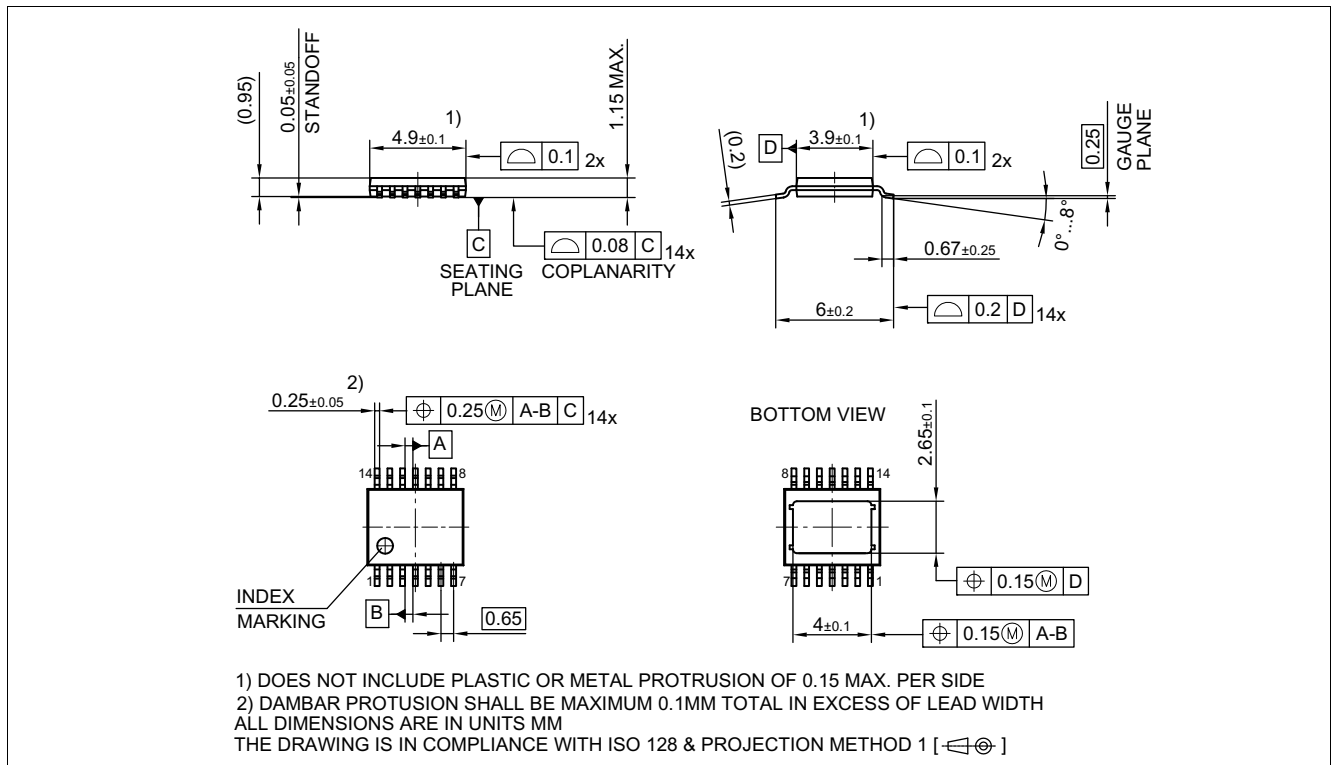
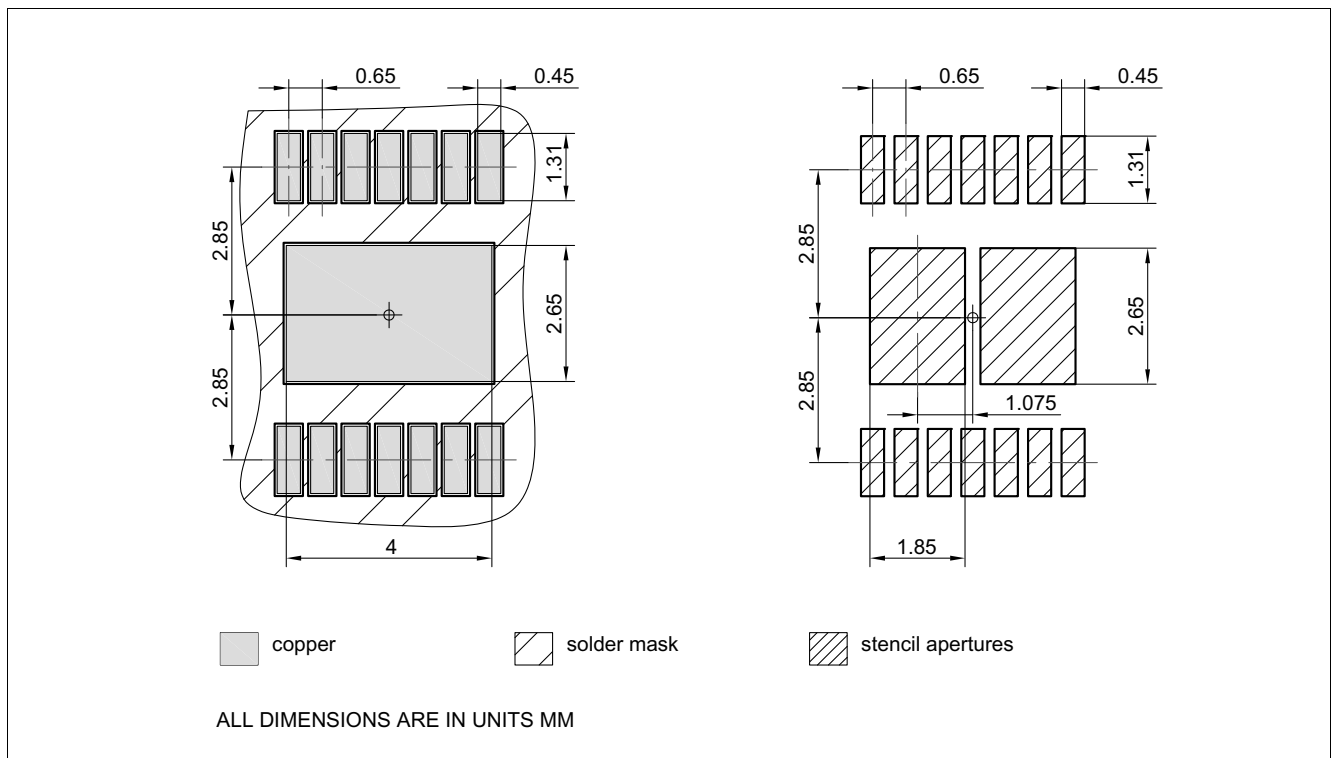

Figure 44 PG-TSDSO-14 (Thin (Slim) Dual Small Outline 14 pins) Package Outline
Figure 45 PG-TSDSO-14 (Thin (Slim) Dual Small Outline 14 pins) Package pads and stencil
1.04, 2019-06-26	Chapter 9.2 updated (2 V → $V_{DS(OLOFF)}$) General: updated (ReverSave™ → ReverseON) Chapter 1 updated ((inserted headline "Product Validation"), (Qualified in accordance with AEC Q100 grade 1 → Qualified for automotive applications. Product validation according to AEC-Q100 Grade 1.)) General: updated Product Name (PROFET™+2 → PROFET™+2 12V) Page 1: updated figure product Table 24 updated punctuation Chapter 9.3.1 updated (typo) Page 1: updated (Package PG-TSDSO-14-22 → Package PG-TSDSO-14) Figure 29 updated Figure 44 updated (PG-TSDSO-14-22 (Thin (Slim) Dual Small Outline 14 pins) Package Outline → PG-TSDSO-14 (Thin (Slim) Dual Small Outline 14 pins) Package Outline) Figure 45 updated (PG-TSDSO-14-22 (Thin (Slim) Dual Small Outline 14 pins) Package pads and stencil → PG-TSDSO-14 (Thin (Slim) Dual Small Outline 14 pins) Package pads and stencil) Table 1 updated ((Symbol: $I_{VS(SLEEP)} \rightarrow I_{VS(SLEEP)_{85}}$), (Parameter: Minimum Overvoltage protection ($T_J = 25^\circ\text{C}$) → Minimum Overvoltage protection ($T_J \geq 25^\circ\text{C}$)) P_9.6.0.6 updated (Note or Test Condition: removed unnecessary line-break)